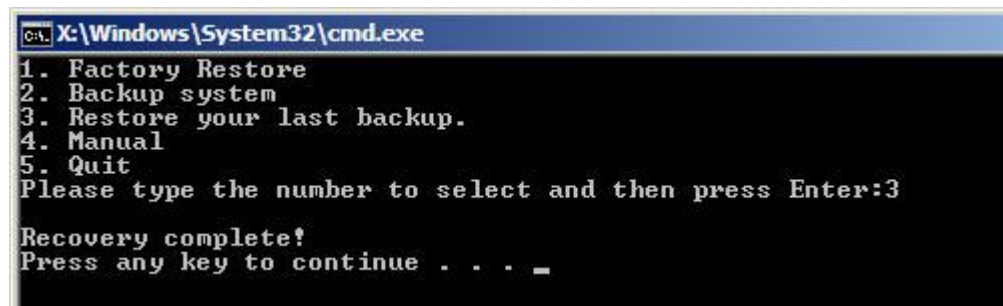

Figure B-32: Restore System Backup Complete Window
Step 3: The screen is shown as in **Figure B-32** when backup recovery is completed.